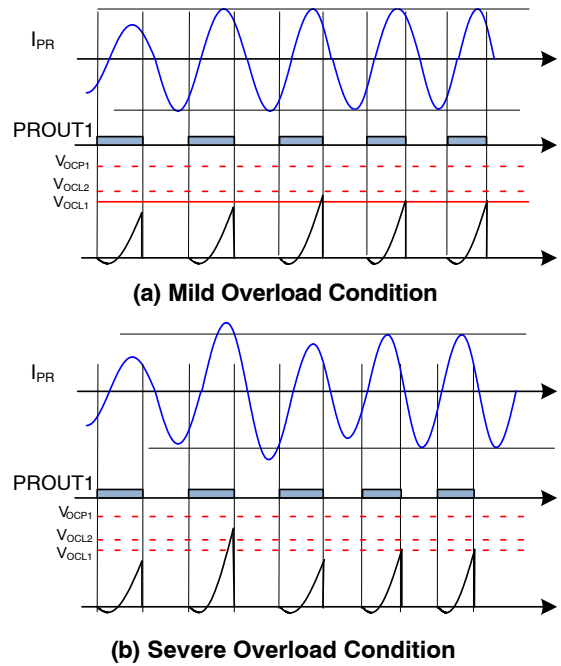
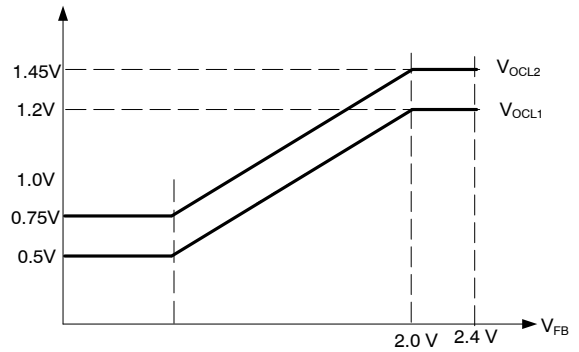

Figure 64. Current Limit of the ICS Pin by Frequency Shift (Compensation Cutback)
Figure 65. Current Limit Threshold Modulation as a Function of Feedback Voltage
3. Over-Current Limit: The V_{ICS} peak value is also used for input current limit. As can be seen in Figure 64, there exist two different current limits (fast and slow). When the V_{ICS} peak value increases above the slow current limit level (V_{OCL1}) due to a mild overload condition, the internal feedback compensation voltage is slowly reduced to limit the input power. This continues until the V_{ICS} peak value drops below V_{OCL1} . During a more severe over load condition, the V_{ICS} peak value crosses the fast current limit threshold (V_{OCL2}) and the internal feedback compensation voltage is quickly reduced to limit the input power as shown in Figure 64 (b). This continues until the V_{ICS} peak value drops below V_{OCL2} . The current limit threshold on the V_{ICS} peak value also changes as the output voltage sensing signal (V_{FB}) decreases such that output current is limited during overload condition as shown in Figure 65. In addition, these limit thresholds change to higher values ($V_{OCL1.BR}$ and $V_{OCL2.BR}$) when the converter operates in deep below resonance operation for a longer holdup time (refer to holdup time boost function)